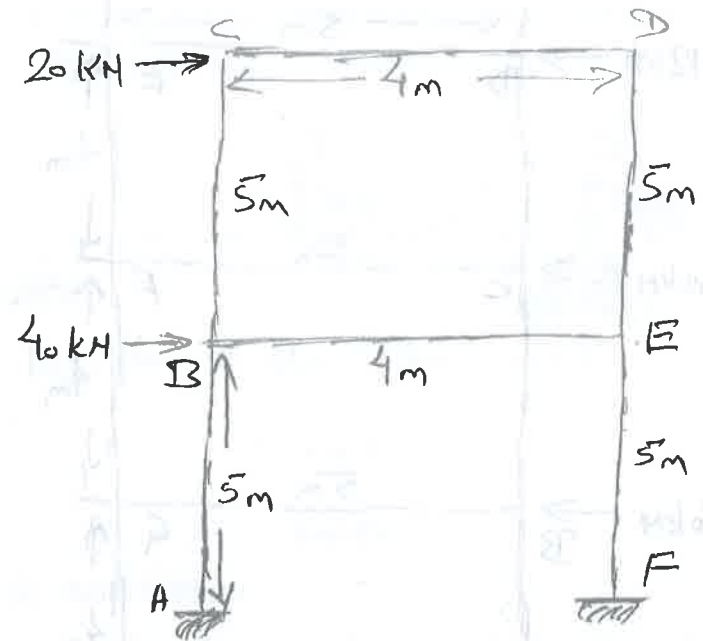

Fig. 3
- (b) Analyse the frame shown in fig. 3 for horizontal force by approximate method (Portal method). 14